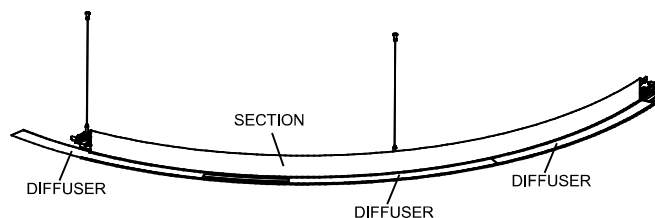

Fig. 5
8. Insert 3x diffusers textured side down by sliding into the end of the section (ensure diffuser overlaps are in the correct orientation). IT IS IMPORTANT TO INSTALL DIFFUSERS BEFORE CONNECTING SECTIONS TO EACH OTHER (Fig. 5).